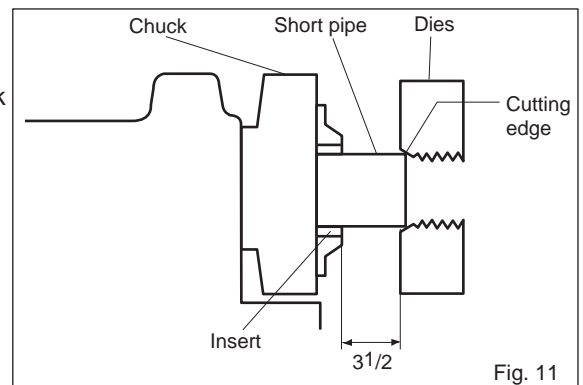

Fig. 11
- Lightly grip the pipe with the chuck, gently engage the dies with the end of the pipe to be threaded, and then tighten the hammer chuck again. (Fig. 11)
Note: Chuck the pipe with the pipe protruding at least $3\frac{1}{2}$ from the edge of the chuck jaw insert. (Fig. 11)